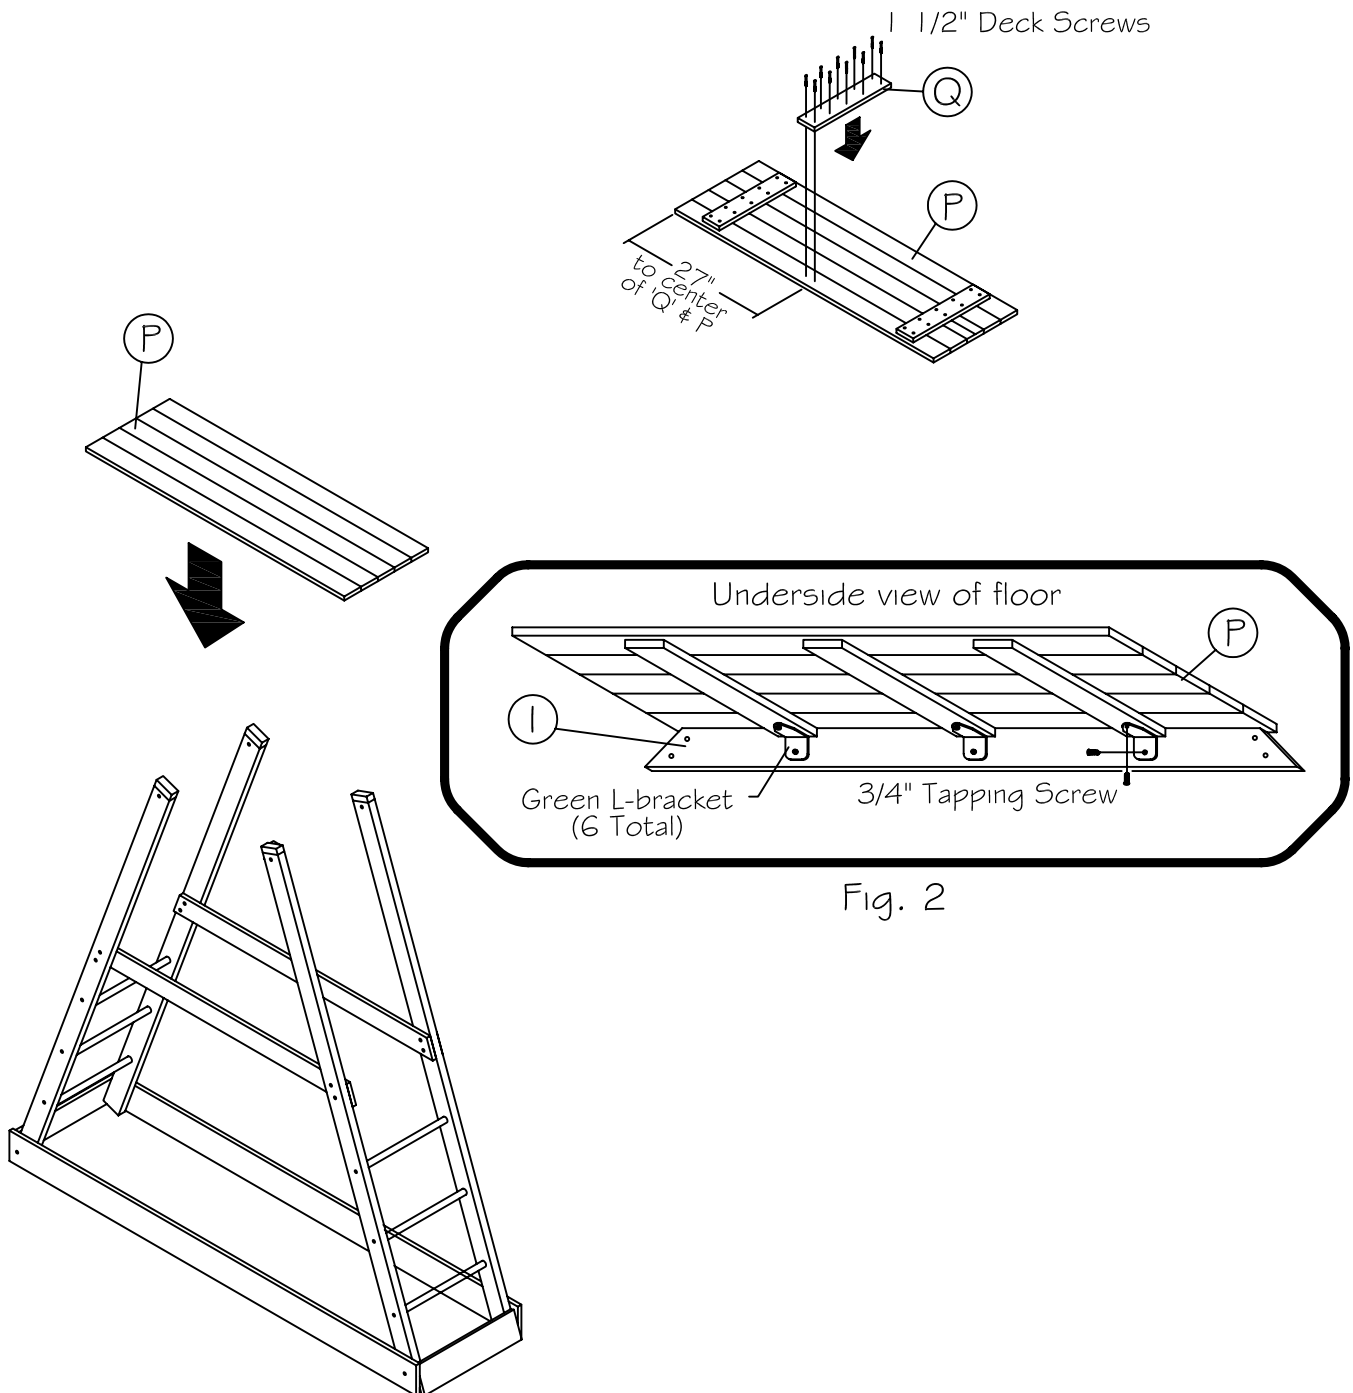

Fig. 2
Step 1: Gather Floor Panel 'P' & (6) L-brackets.
Step 2: Attach Middle Floor Cleat 'Q' onto bottom center Floor Panel 'P' with (10) 1 1/2" deck screws as shown.
Step 3: Place Floor Panel 'P' onto Floor Supports 'I' on each side of unit and attach w/ L-bracket to each cleat on panel and floor support on unit. (see fig. 2) (6) L-brackets will be used.